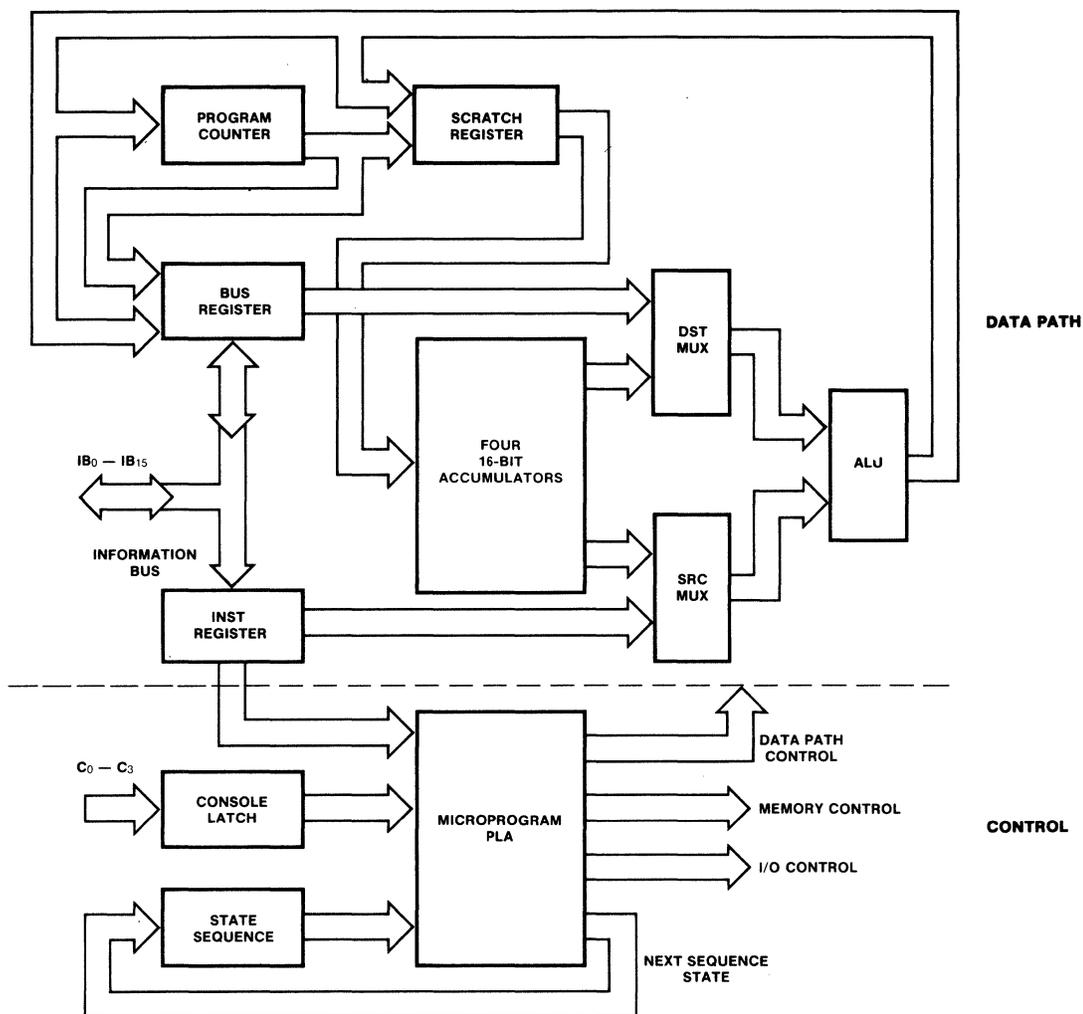

Fig. 1 9440 MICROFLAME CPU Block Diagram
**9440 ARCHITECTURE (Figure 1)**